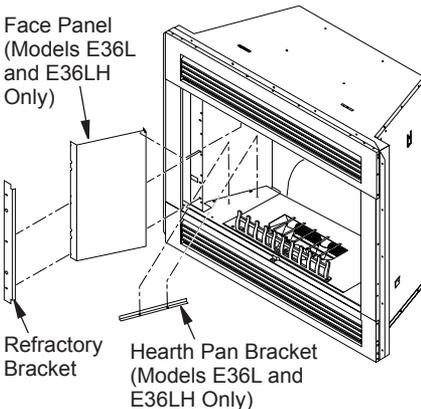

Figure 16 - Removing Refractory Bracket and Hearth Pan Bracket
4. Remove two screws holding each refractory bracket to firebox. Pull up and lift out of positioning slot at bottom of hearth pan (see Figure 16, page 10).
Note: E36L and E36LH models require removal of additional hearth brackets and face panels which are held in place by 2 screws on hearth pan and one screw at top retainer bracket (see Figure 16, page 10).